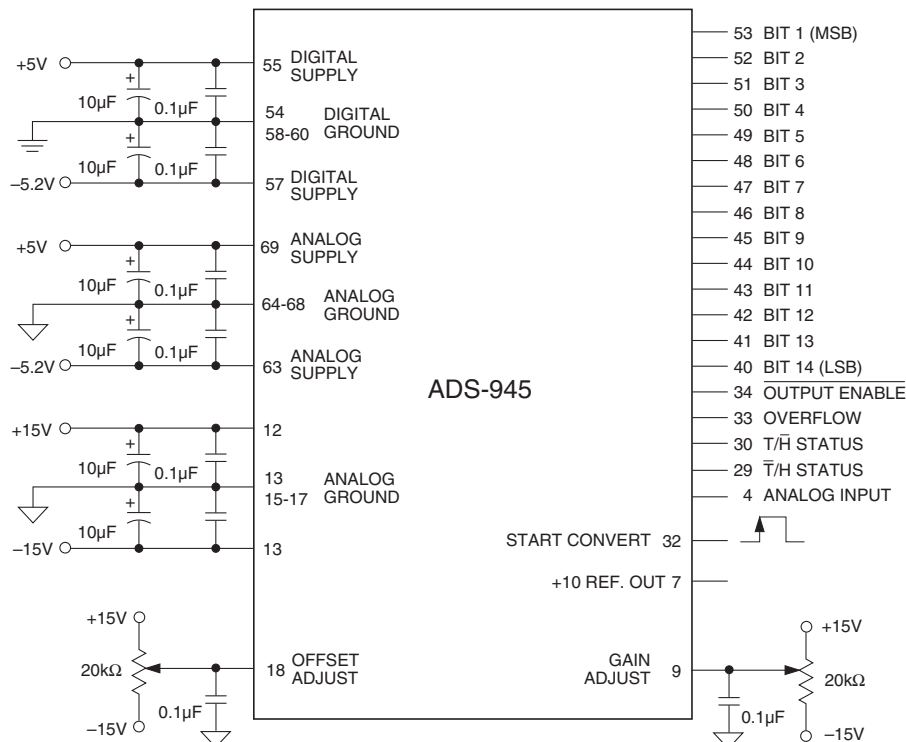

Figure 2. ADS-945 Connection Diagram
2. The ADS-945 achieves its specified accuracies without the need for external calibration. If required, the device's small initial offset and gain errors can be reduced to zero using the adjustment circuitry shown in Figure 2. The typical adjustment range is ±0.2%FSR for this circuitry.
CALIBRATION PROCEDURE (Refer to Figure 2 and Table 1)
Any offset and/or gain calibration procedures should not be implemented until devices are fully warmed up. To avoid interaction, offset must be adjusted before gain. The ranges of adjustment for the circuit in Figure 2 are guaranteed to compensate for the ADS-945's initial accuracy errors and may not be able to compensate for additional system errors.